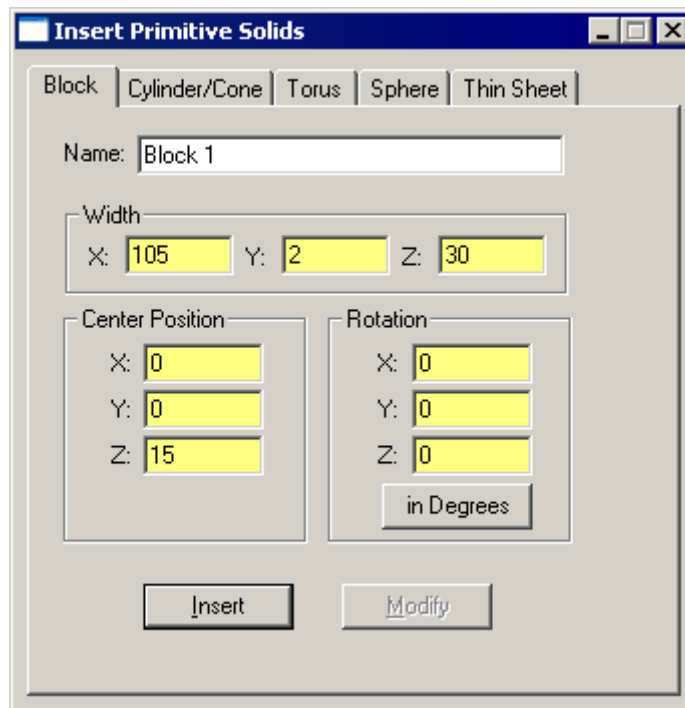

FIGURE 9.18 - Insert a block into a TracePro model as a substrate for the Conical Hole surface.
15. In TracePro, using the **Geometry|Primitive Solid** dialog box, insert a block with dimensions as shown in Figure 9.18.